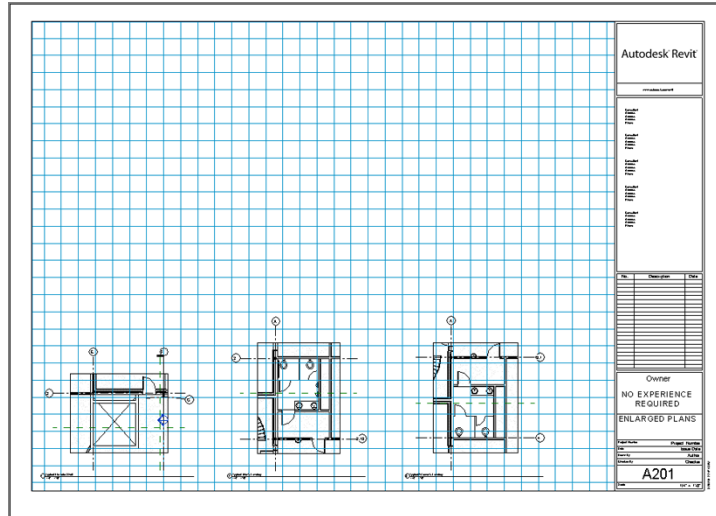

FIGURE 14.8: Creating a sheet and adding views in a row across the bottom of the page
10. Arrange them so that they're in a row, as shown in Figure 14.8.